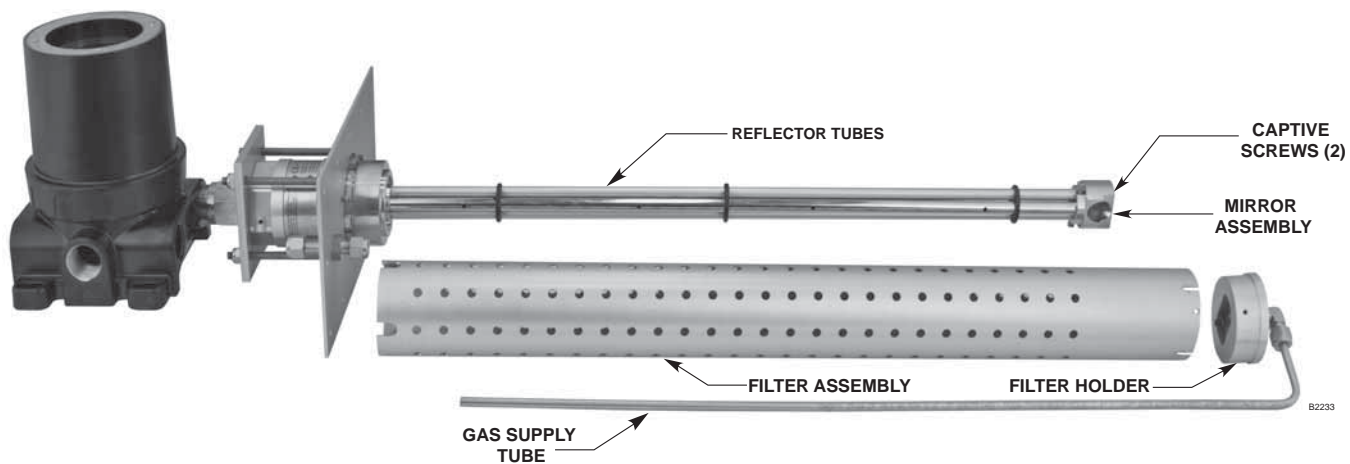
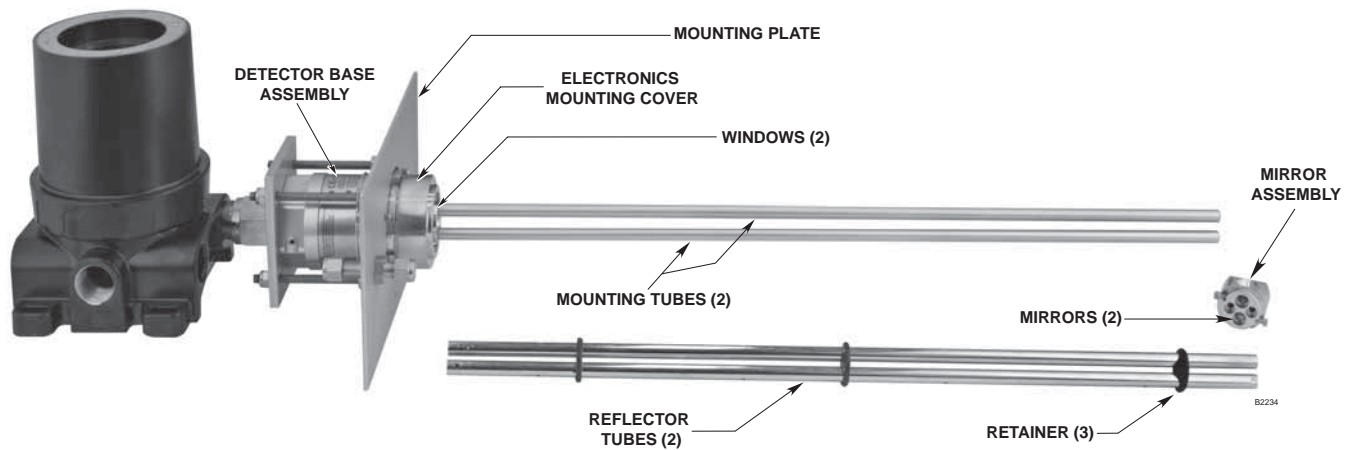

Figure 12—DuctWatch with Filter Assembly Removed
Figure 13—DuctWatch Disassembled for Cleaning
1. Loosen the two captive screws on the end of the filter assembly, then remove the filter assembly as shown in Figure 12.
2. Loosen the two captive screws on the mirror assembly (Figure 12) and remove the mirror assembly from the reflector tubes. See Figure 13.
3. Remove the reflector tubes from the mounting tubes as shown in Figure 13. Do not remove the electronics mounting cover.
8. Tighten the two captive screws on the mirror assembly. See Figure 12. Tighten the screws evenly. Do not over-tighten (apply 1 N-m minimum torque).
9. Slide the filter assembly over the mirror assembly and rotate until it is seated securely. If it is not oriented correctly, the filter assembly will not slide onto the unit. Fasten the two captive screws. See Figure 12.